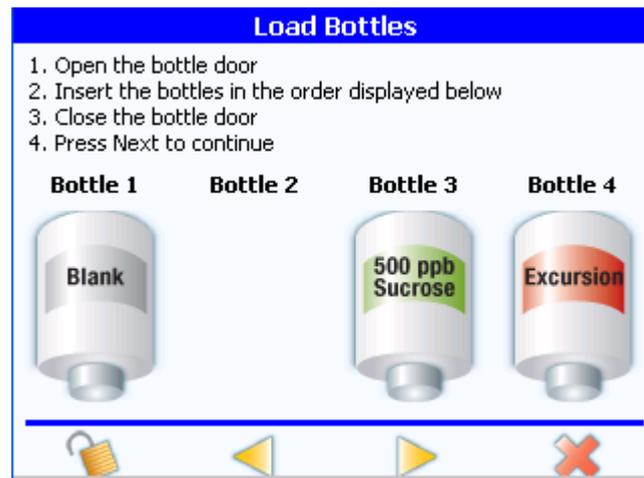

Figure 6-26 Excursion mode with validation, load bottles dialog box
- **Excursion with validation button** opens the excursion with validation load bottles dialog box. See Figure 6-26 and follow the instructions in Excursion with validation, below.
- 1) Install the standards bottles following the instructions as shown in the load bottles dialog box and ensuring that you place the standards bottle in the correct position. See Figure 6-26. From left: